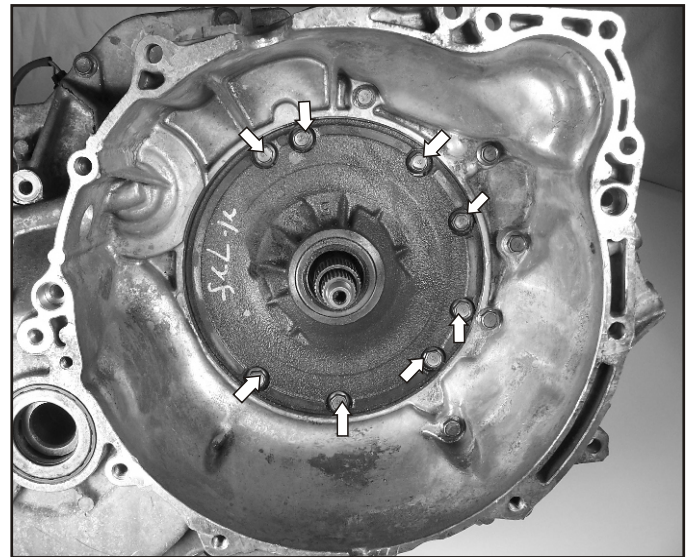

Figure 292
**Note: The bolt lengths are 28mm long. See Figure 292.**